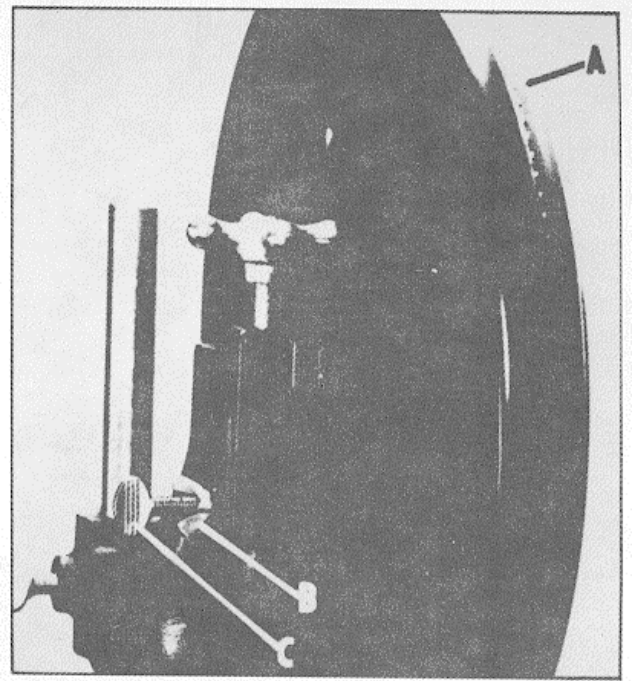

Fig. 14
After tension has been applied to the blade, revolve the wheels slowly forward by hand and watch the blade (A) Fig. 14, to see that it travels in the center of the upper tire. If the blade begins to creep toward the front edge, loosen the wingnut (B) and tighten the thumbscrew (C). This will tilt the top of the wheel toward the back of the machine and will draw the blade toward the center of the tire. If the blade creeps toward the back edge, turn the thumbscrew in the opposite direction. Adjust the thumbscrew (C) only a fraction of a turn at a time. **NEVER TRACK THE BLADE WHILE THE MACHINE IS RUNNING.** After the blade is tracking in the center of the tires, tighten the wingnut (B) Fig. 14.